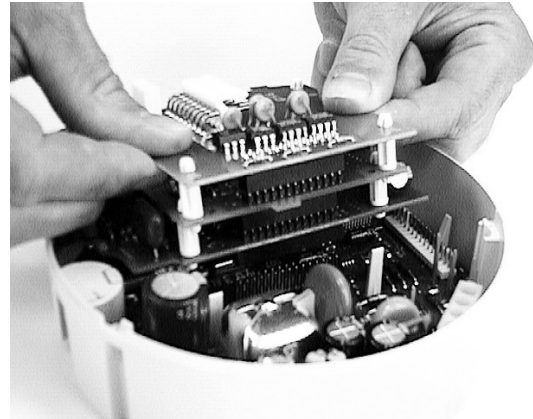

Figure 8: Inserting option boards
6. With the kV RSX Option Board “stack” in hand, insert the tabs on the kV RSX Option Board into the slots in the bezel (see figure 8).